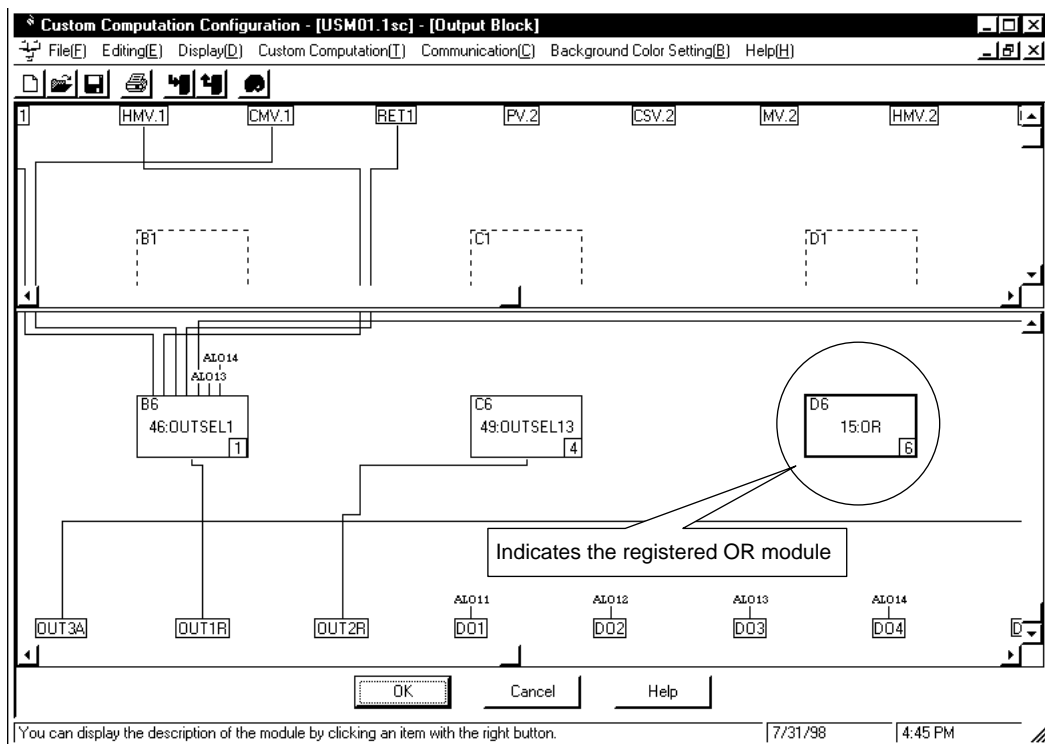

Figure 4.3.6 Example where an OR Module Is Registered as the Sixth-run Module
Figure 4.3.6 shows an example where the <15: OR> option in the <Logical Operation> index is registered.
- ① In the [Output Block] dialog box, click the module whose inputs and parameters you want to configure. In the example shown in Figure 4.3.6, click the OR module.